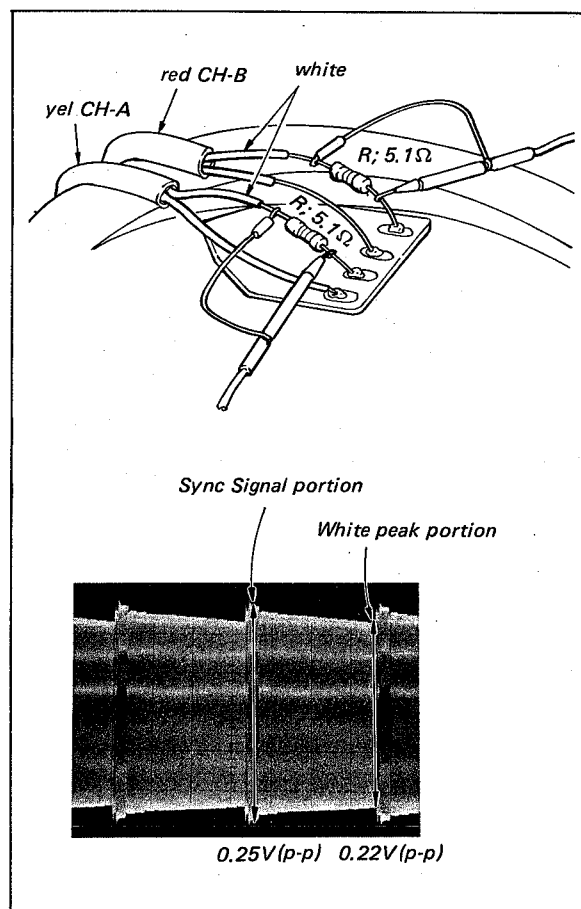

Fig. 6-5. Record current adjustment
3. Temporarily connect two resistors of 5.1 ohms to the relaying board on the head drum as shown in the Fig. 6-5. Connect the scope across the resistor and externally trigger it from TP-202/V3 Board. Adjust R260 and R264; CH-A (R269 and R273; CH-B) on the V3 Board so that the both amplitude corresponding to the horizontal sync signal portion and the white peak portion satisfy the specifications shown in the Fig. 6-5.